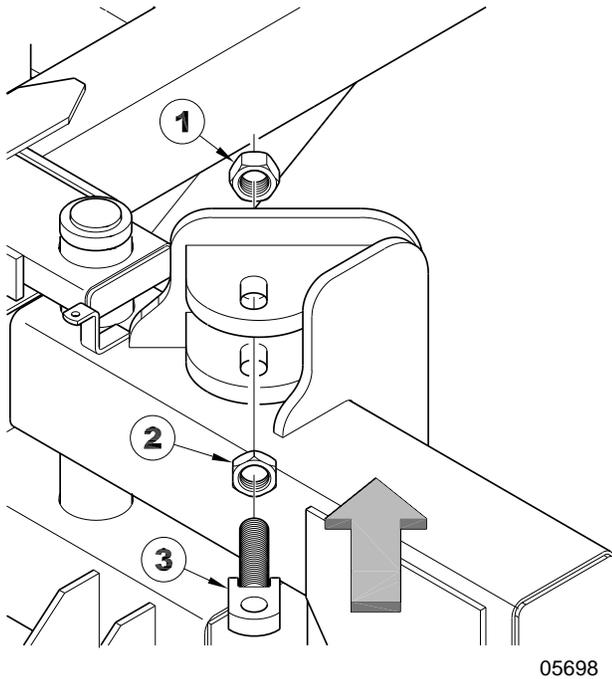

Figure 38
- Loosen the jam nut (#2) as shown in on the inside of the mount shown in Figure 38. By tightening the nut (#1) on the outside of the mount, the stroke of the fold cylinder will lengthen which will bring the wings together at the front of the Xpress Air Drill. Make equal adjustments to each side.